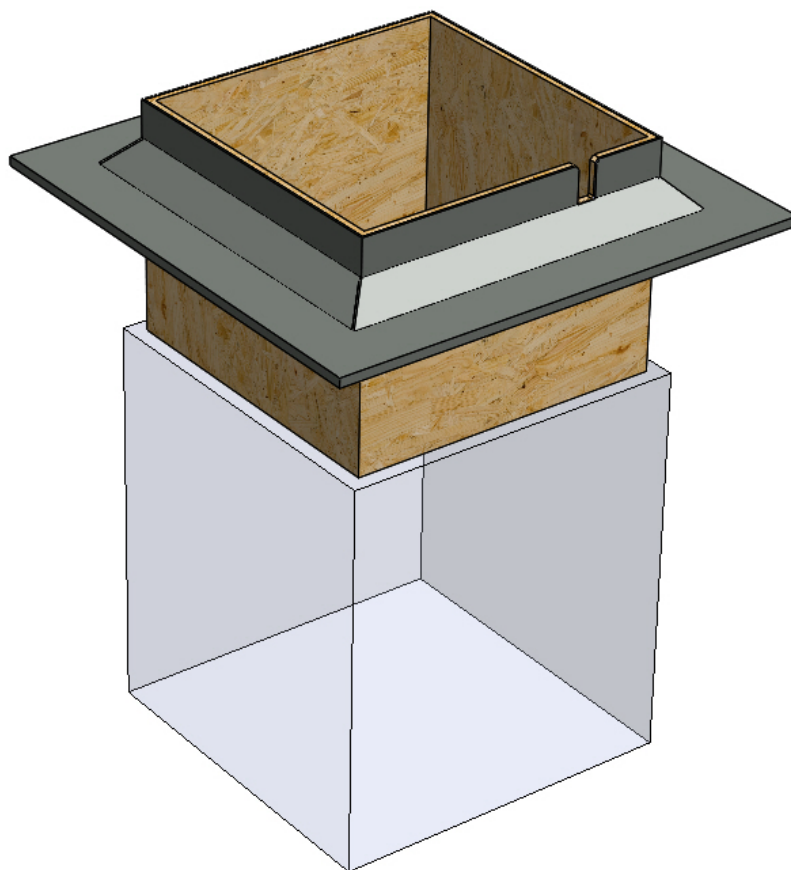

Figure 20 – Upstand dimension details.
1. 18mm Marine plywood upstand to be constructed and fixed by others around the perimeter, with a minimum height to be specified by Ventive. This will create an internal opening dimension of 792mm x 792mm – *see figure 20*.